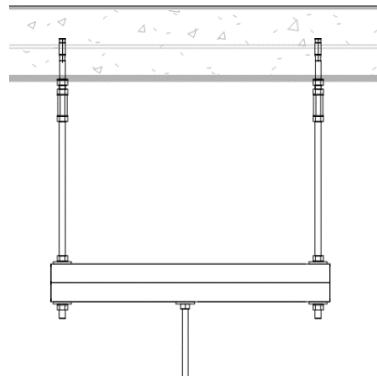

Figure 249: *A Trapeze Created to Avoid an Above Ceiling Conflict*
- If mechanical, electrical or plumbing equipment cannot be avoided, a “bridge” or “trapeze” (Figure 249) may be necessary. Refer to the strut channel manufacturer’s specifications to determine the type and size of strut channel required to meet load capacity and span conditions.